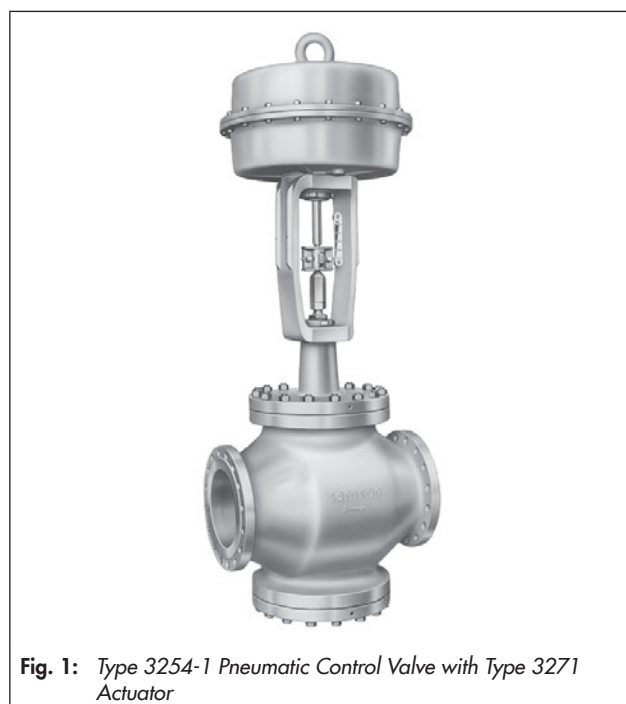

Fig. 1: Type 3254-1 Pneumatic Control Valve with Type 3271 Actuator
- **Type 3254-1** (Fig. 1) · Type 3254 Valve and Type 3271 Actuator with 350 to 2800 cm² actuator area (see Data Sheets ► T 8310-1, T 8310-2 and ► T 8310-3)